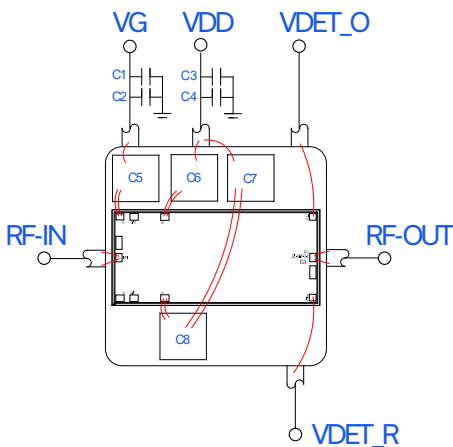

Figure 1. Characterization, Application Circuit & Assembly Drawing
1. Measured on Mini-Circuits Characterization Test Board MB-083. See Recommended Application and Characterization Circuit (Fig. 1)